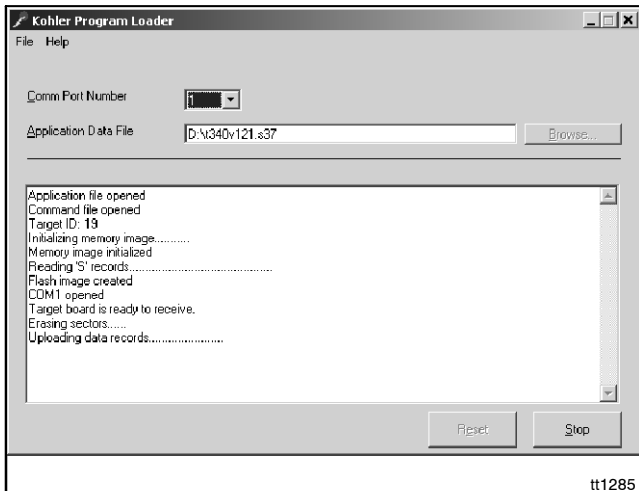

Figure 8 Program Loader Screen
- Enter the number of the computer's COM port (number 1 through 16) that is connected to the controller through the communication cable. See Figure 8.